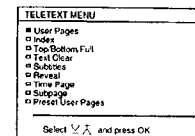

Fig. 42
- 1 Press **[MENU]**. The menu will be superimposed on the teletext display. (See Fig. 42).